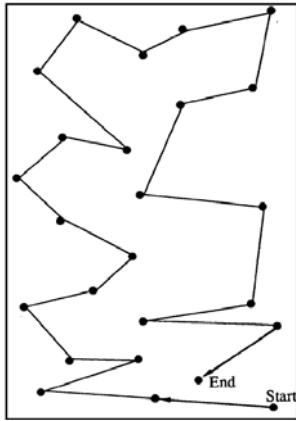

Figure 1. Zigzag, random soil sample pattern
- ***Choose an adequate number of sample locations in a zigzag, random pattern.*** The number of separate soil samples included in each composite sample should be no less than 5-10 for small areas (less than ¼ acre), 10-15 for mid-sized areas (up to 5 acres), and 20-30 for large areas (up to 25 acres). No composite sample should be made to represent more than 25 acres. A zigzag, random pattern covering the whole cropped area should be used when selecting a sample location (see Figure 1). Try to avoid introducing any bias to the composite